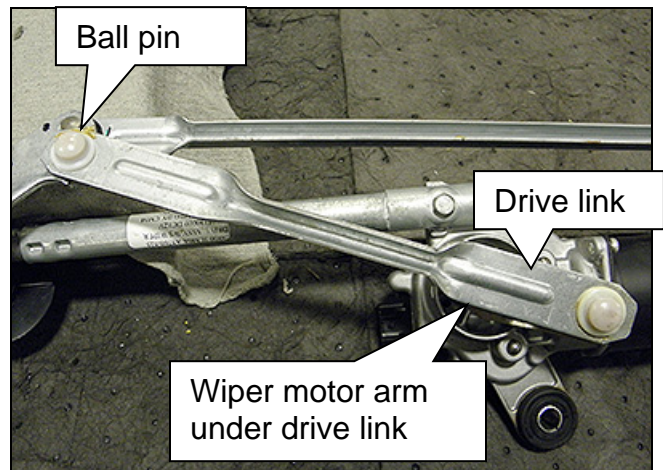

Figure 7
- Confirm that the alignment is correct as shown in Figure 7.